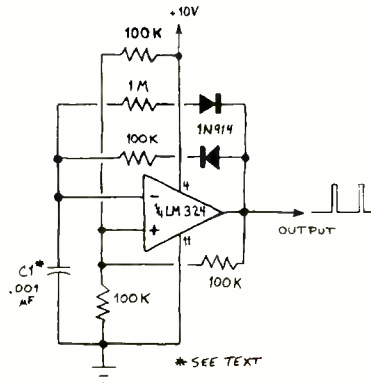

Fig. 3. Change *C1* to vary pulses.
A somewhat more versatile pulse generator is shown in Fig. 3. The repetition rate of this circuit can be changed from one pulse every few minutes to 200 kHz by simply changing *C1*. Here's a table of pulse parameters I measured with the prototype circuit:
The conventional pulse generator of Fig. 3 can also be used to experiment with applications like these:
3. A LED "random" flasher. See Fig. 5 for this variation of the circuit. For best results, use different values for the capacitors (C1 in Fig. 3) to provide different flash rates. These values should range from about 0.2 to 1.0  $\mu\text{F}$  so that the flashing will be discernable to the eye. Incidentally, you can house this circuit in a small plastic enclosure for permanent use as a novelty or attention-getting device.
\* USE CIRCUIT IN FIG. 3